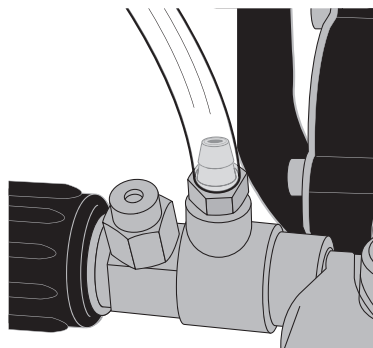

Figure 5-7
1. Ensure detergent siphon hose is attached to barbed fitting location near high pressure hose connection of pump as shown. See Figure 5-7.